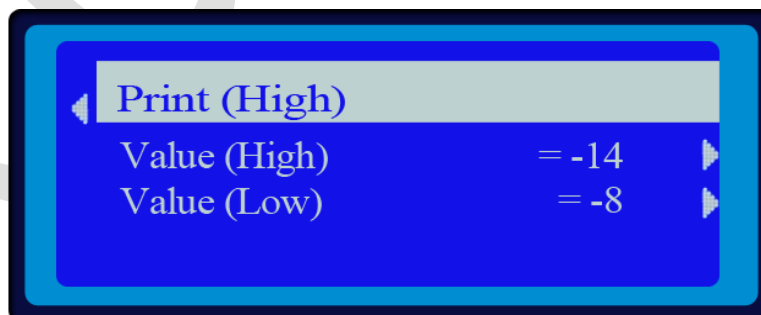

Fig 33: The Correction Value Screen
6. Select the **Value (High)** option from the above screen (Refer to Fig 33). The Bi-Dir Correction screen appears as shown below: